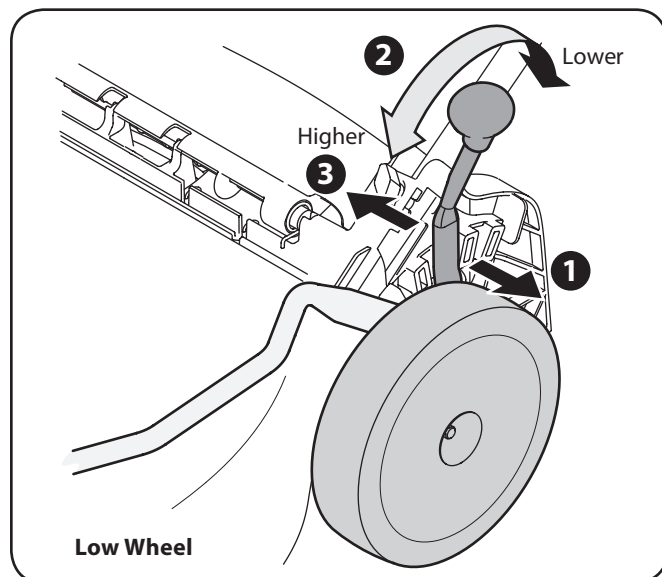
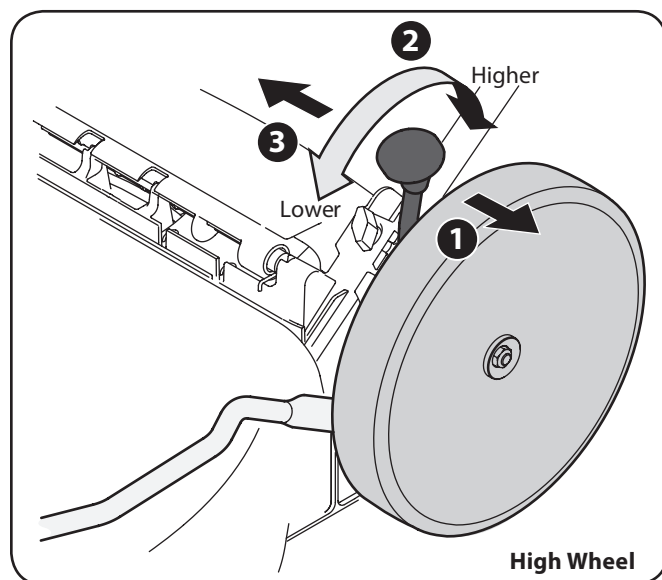

Figure 3-10
Figure 3-11
2. Slide lever to desired position for a change in cutting height. Refer to Figure 3-10 for low wheel adjustment and Figure 3-11 for high wheel.